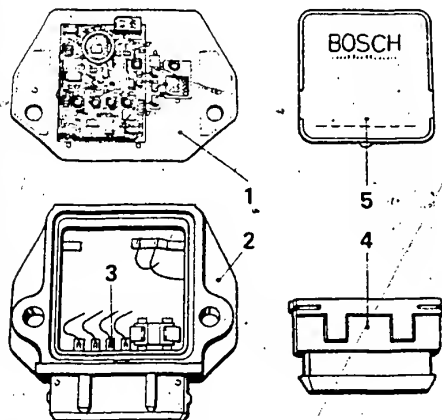

Fig. 2 1 = Metal base with thick-film board
3.1 Trigger box design (see Figs. 2 ... 4)